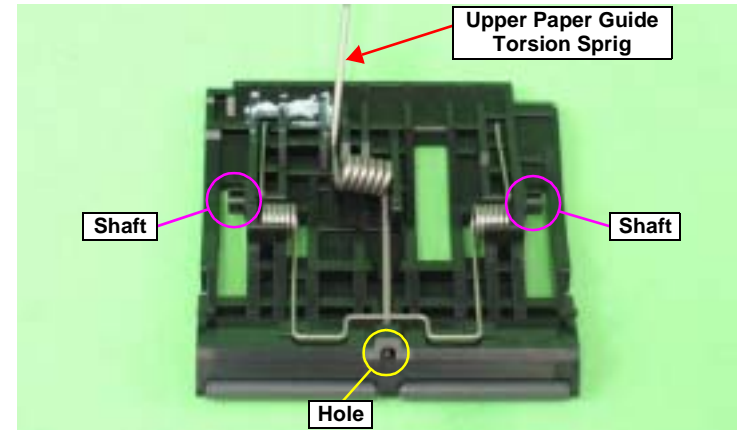

Figure 4-112. Reinstalling the Upper Paper Guide Torsion Spring
- Lift the six Upper Paper Guide Assys from the Main Frame to release the shaft referring to Figure 4-112., and remove the Upper Paper Guide Assys to the rear.